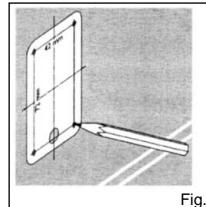

Fig.2
- **Mark the fixing holes using the drill template provided with the cells (fig. 2)**